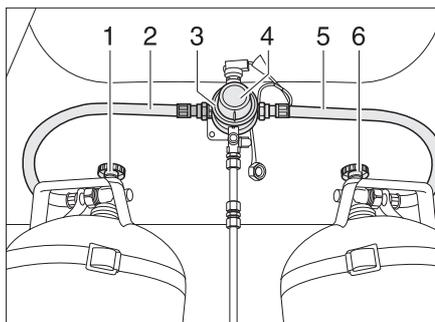
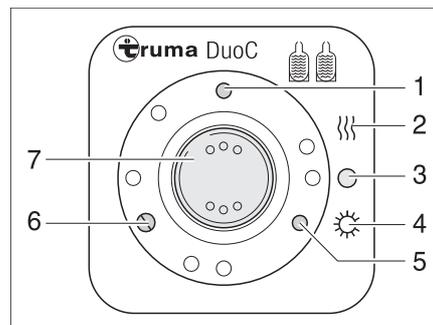

Fig. 90 DuoControl switching facility
Fig. 91 Operating unit
The DuoControl switching facility consists of a switching valve (Fig. 90,3) and the operating unit (Fig. 91). The switching valve is mounted between the gas tubes (Fig. 90,2 and 5). The knob (Fig. 90,4) on the switching valve is used to select which of the gas bottles is to be used as a primary bottle and which is to be used as a reserve bottle.
Only the electrical functions can be switched at the operating unit (Fig. 91). The regulator taps on the gas bottles (Fig. 90,1 and 6) must be opened manually.
The switching valve provides a constant gas pressure, regardless of which gas bottle is being drawn upon. The two indicator lamps on the operating unit show the filling level of the primary bottle. The primary bottle is full when the green indicator lamp (Fig. 91,6) lights up. The primary bottle is empty when the red indicator lamp (Fig. 91,5) lights up. The gas is then supplied via the reserve bottle.
- Open the regulator taps on the gas bottles (Fig. 90,1 and 6).
- Use the knob (Fig. 90,4) on the switching valve (Fig. 90,3) to select the gas bottle which is to be the primary source of gas (primary bottle).
- Switch on the DuoControl switching facility at the operating unit (Fig. 91).
- To do so, set the rocker switch (Fig. 91,7) to winter operation "On and heating" (Fig. 91,2) or to summer operation "On" (Fig. 91,4). The switching valve is now vented. The yellow indicator lamp (Fig. 91,1) lights up when winter operation has been selected and the regulator defroster is switched on.
- Set the rocker switch (Fig. 91,7) to "O" (Fig. 91,3). The yellow indicator lamp (Fig. 91,1) goes out.
- Close the regulator taps on the gas bottles (Fig. 90,1 and 6).
The indicator lamps on the operating unit (Fig. 91,5 and 6) indicate in the vehicle interior whether the primary bottle is ready for operation.
If the green indicator lamp (Fig. 91,6) goes out during operation and the red indicator lamp (Fig. 91,5) lights up, the gas bottle selected as the primary bottle is empty and has to be changed. The reserve bottle continues supplying the gas appliances with gas.